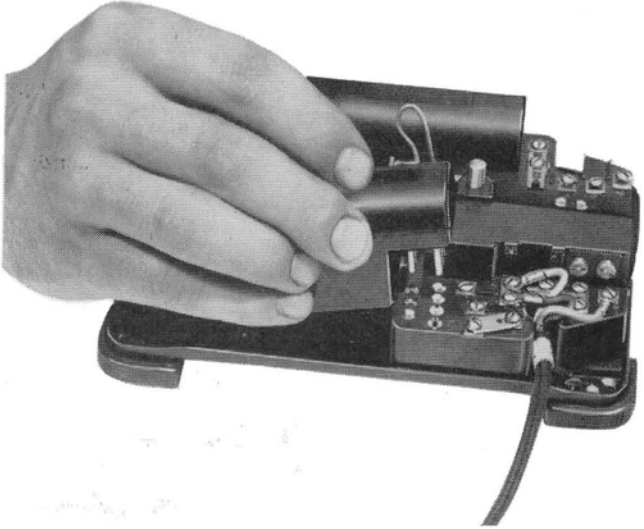

Figure 18 — Replacing Induction Coil
Step 3—Defective Induction Coil. Replace induction coil (Code No. 113A) with one known to be satisfactory (see *figure 18*).
Step 3—Defective induction coil. Replace the induction coil (Code No. 113A) with one known to be good (*see figure 18*).